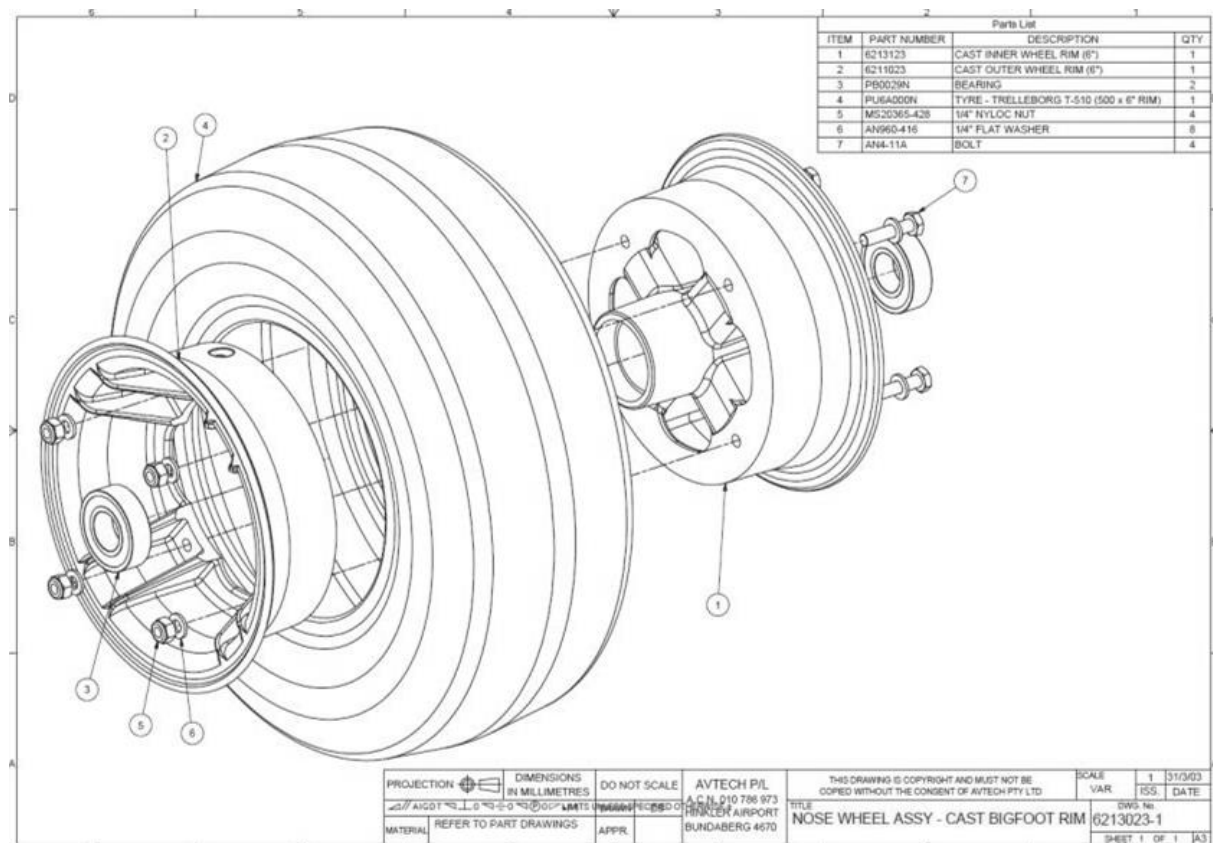

Figure 81 – Nose Wheel Hub Assembly
- Figure 81 shows a typical installation. While details and part numbers vary from model to model the general arrangement shown applies to all aircraft.
- Completely deflate tyre by removing the valve stem and break tyre beads loose at wheel rim. Refer to Figure 81.